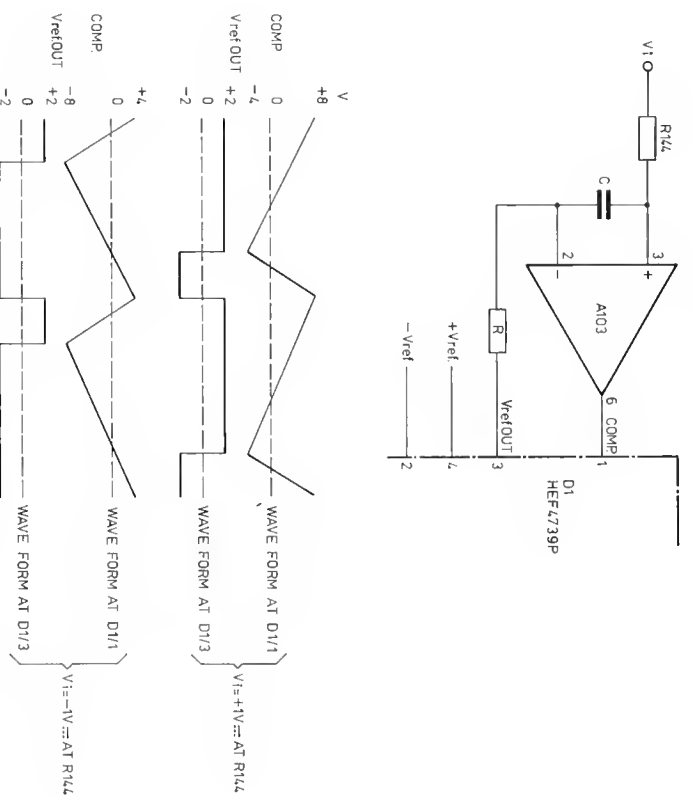

Fig. 32. Analog-Digital convertor
- Measure the wave forms as shown in figure 32